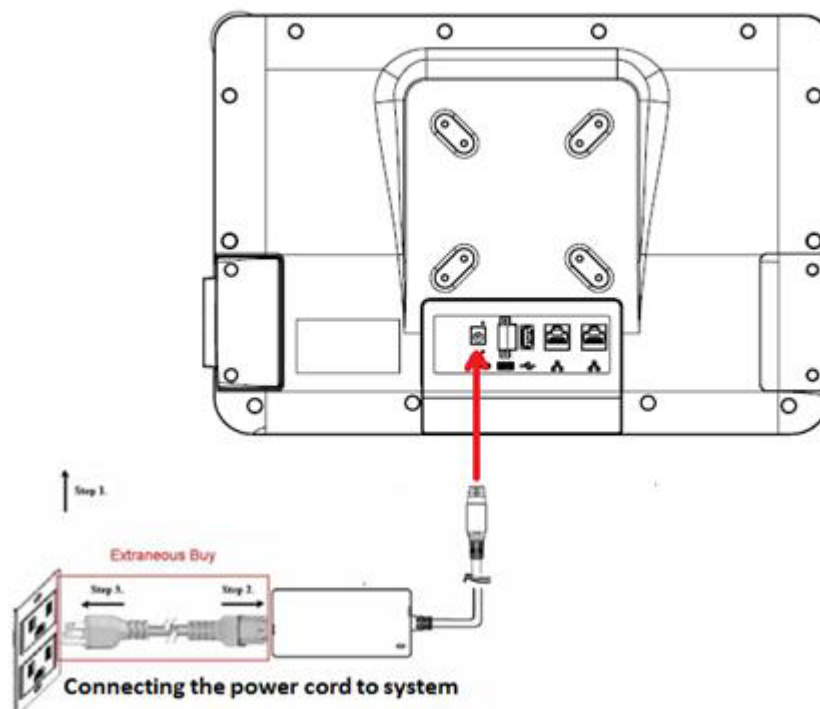

Figure 2.7 Connecting the power cord
1. Connect the female end of the power adapter to the DC jack of the terminal panel (see Figure 2.7).